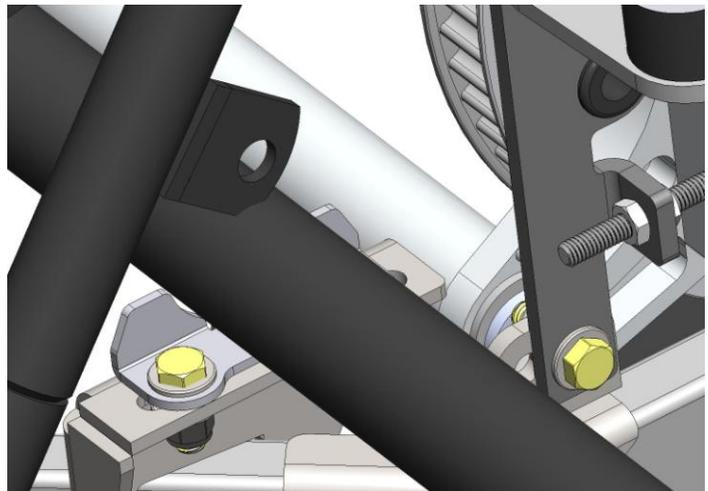

Figure 16
- a. Install 3/8-24x1.25 bolts, washers and nuts through Anti-roll bar housing onto front frame. Position the anti-roll bar on the frame so that the rod ends will be about vertical when attached to the control arms. Torque to 30 ft-lb. **Figure 16.**